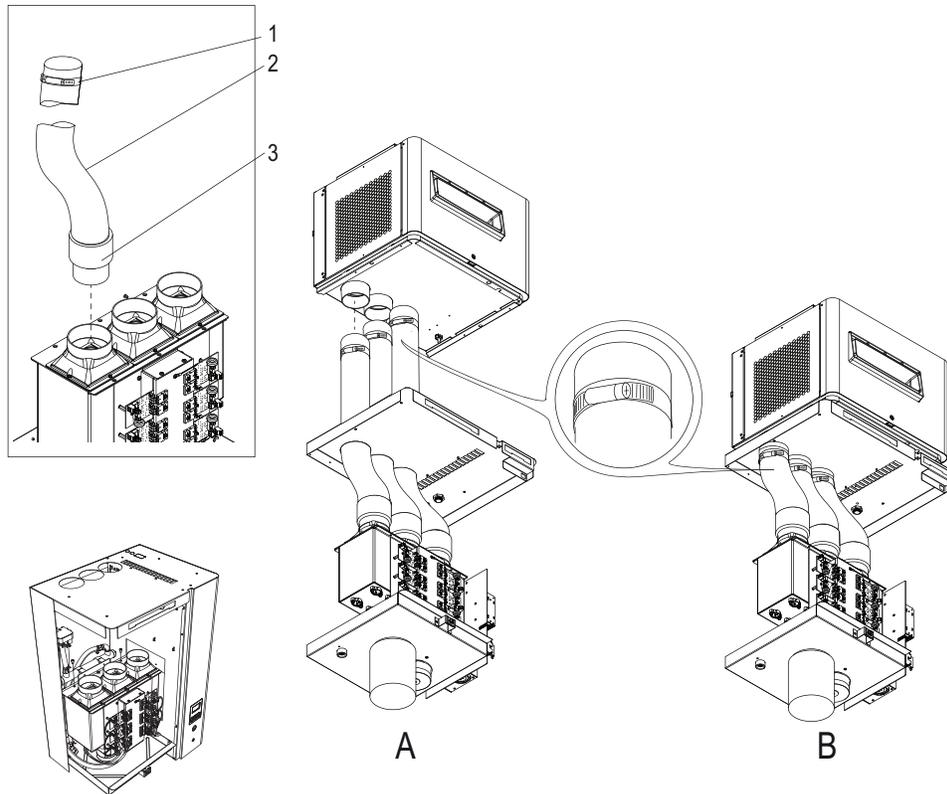

Figure 9 - Flexible Tubes. (A) Remote-Mount Installation. (B) Direct-Mount Installation.
- b. Route the 'connector' end (item 3) of the flexible tube to the top of the water reservoir. Secure the connection by gently inserting the connector and tube into the reservoir, as seen in Figure 9 - below.